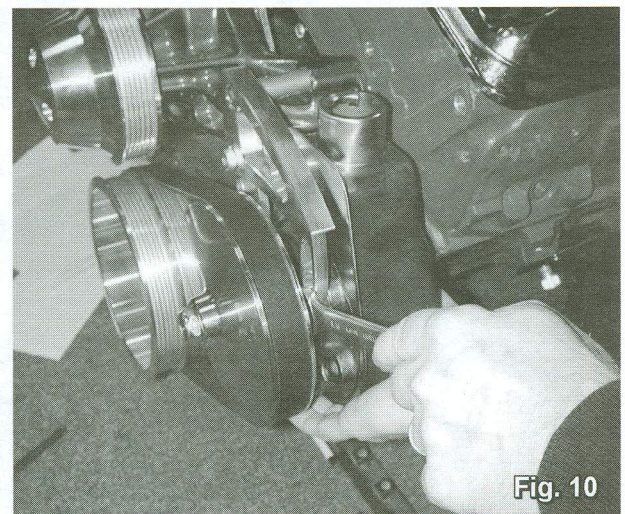

Fig. 10
7. Mount power steering pulley to pump shaft. Check power steering to crank pulley alignment. Install belt and adjust belt tension by pulling up on power steering pump. Belt tension is correct when there is no more than $\frac{1}{4}$ " play in the belt at mid point between the power steering pulley and the crank pulley. Lock the belt tension by tightening the adjustment bolt with a $\frac{9}{16}$ " opened wrench (fig. 10).